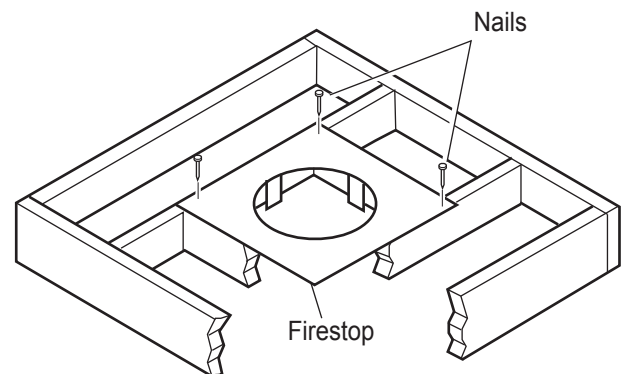
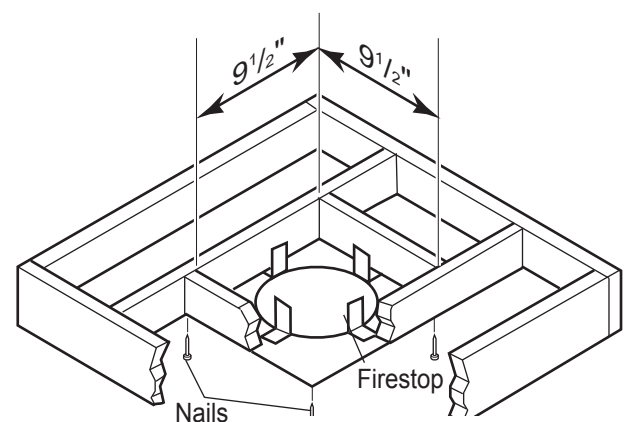

Figure 28- If area above is a room, install firestop above framed hole as shown
Figure 29 - If area above is not a room, install firestop below framed hole as shown
1. Cut a 9 $\frac{1}{2}$ " (241mm) square hole in the ceiling using the locating hole as a center point. The opening should be framed to 9 $\frac{1}{2}$ "x9 $\frac{1}{2}$ " (241 mm x 241mm) inside dimensions as shown in *Figure 12*, page 17 using framing lumber the same size as the ceiling joist. If the area above the ceiling is an insulated ceiling or a room, nail firestop from the top side. This prevents loose insulation from falling into the required clearance space. See *Figure 28*. Otherwise, install firestop below the framed hole. The firestop should be installed with no less than three nails per side. See *Figure 29*.